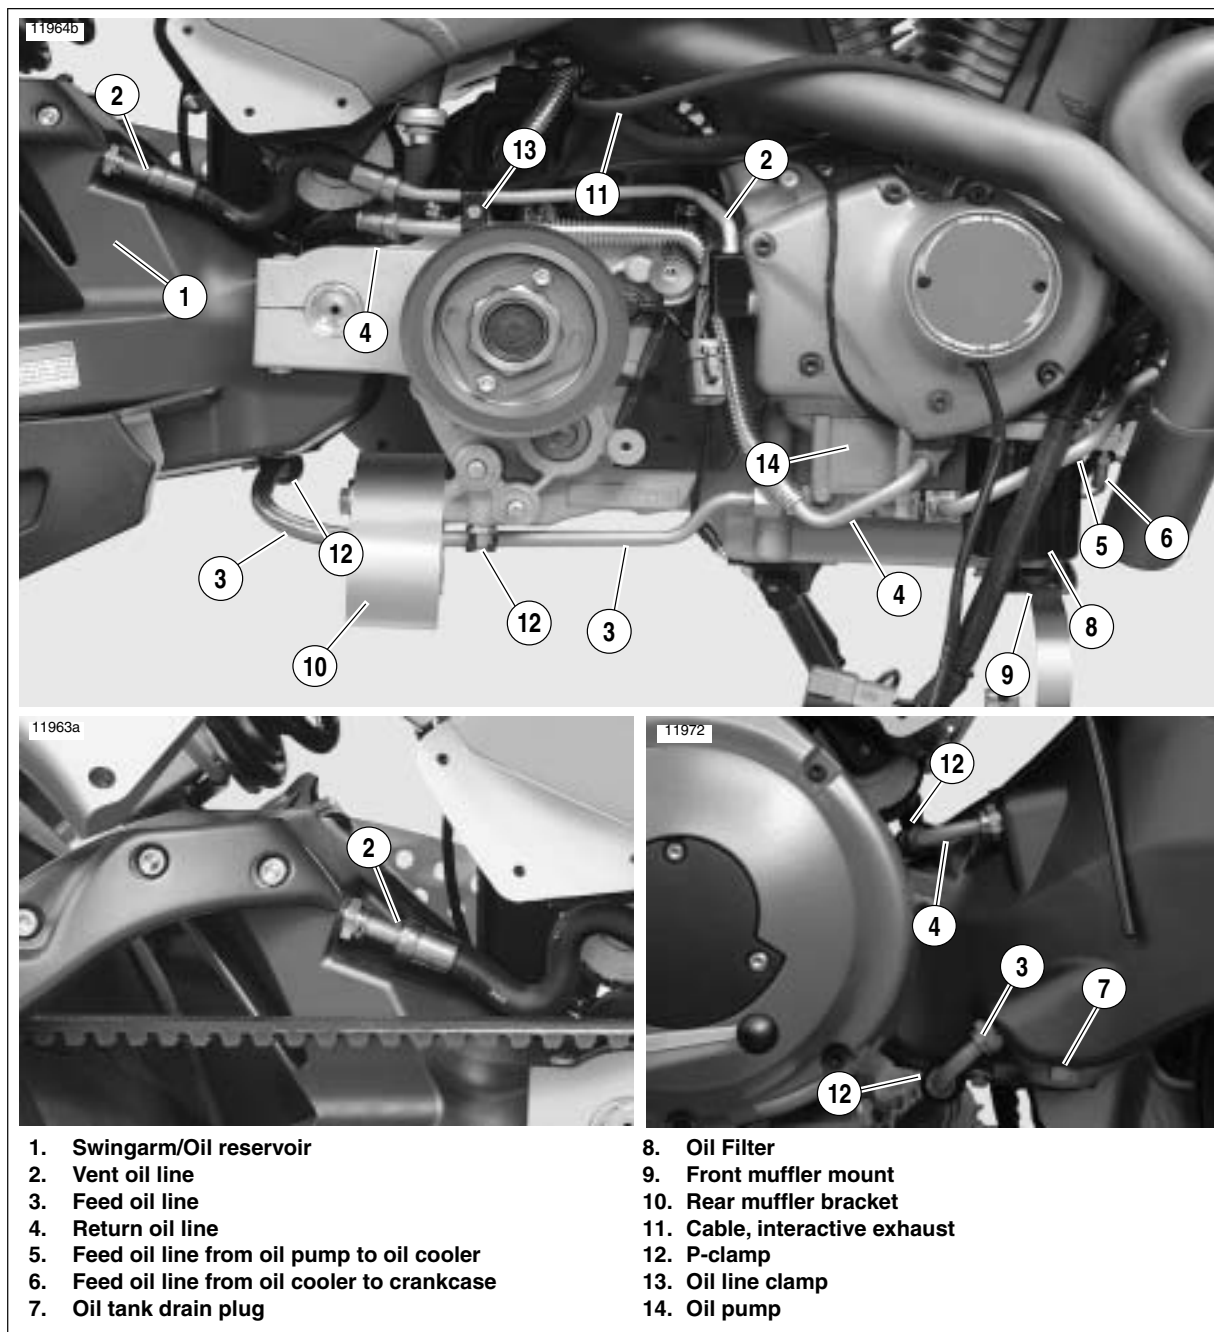

Figure 3-106. Oil Lines and Connections
See Figure 3-106. Engine oil runs through the swingarm which serves as the oil reservoir. From the front of the reservoir, the vent line (2) runs to the rear of the gearcase cover. The return line (4) and the feed line (3) run forward to the oil pump (14). Three rubberized clamps (12) and one plastic clamp (13) secure the lines in place.